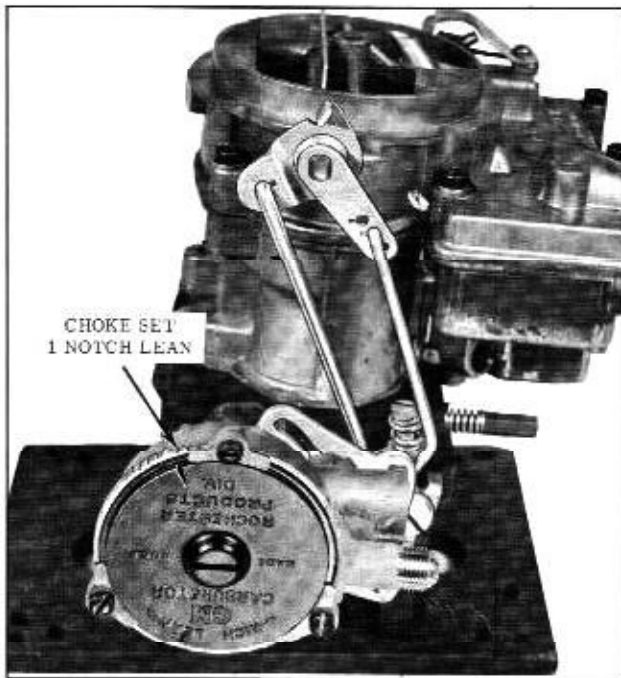

Fig. 8-113 Choke Coil Setting
3. Rotate the choke cover counterclockwise until the coil picks up the choke shaft tang, and the mark on the choke cover is one notch lean. (Fig. 8-113)